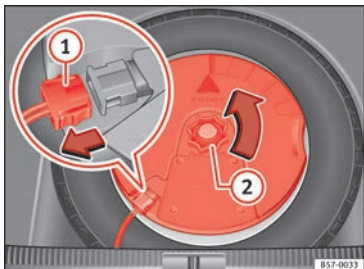

Fig. 256 In the luggage compartment: remove the subwoofer.
- Disconnect the *subwoofer's* speaker cable »» Fig. 256 ①.
- Turn the securing wheel anti-clockwise ②.